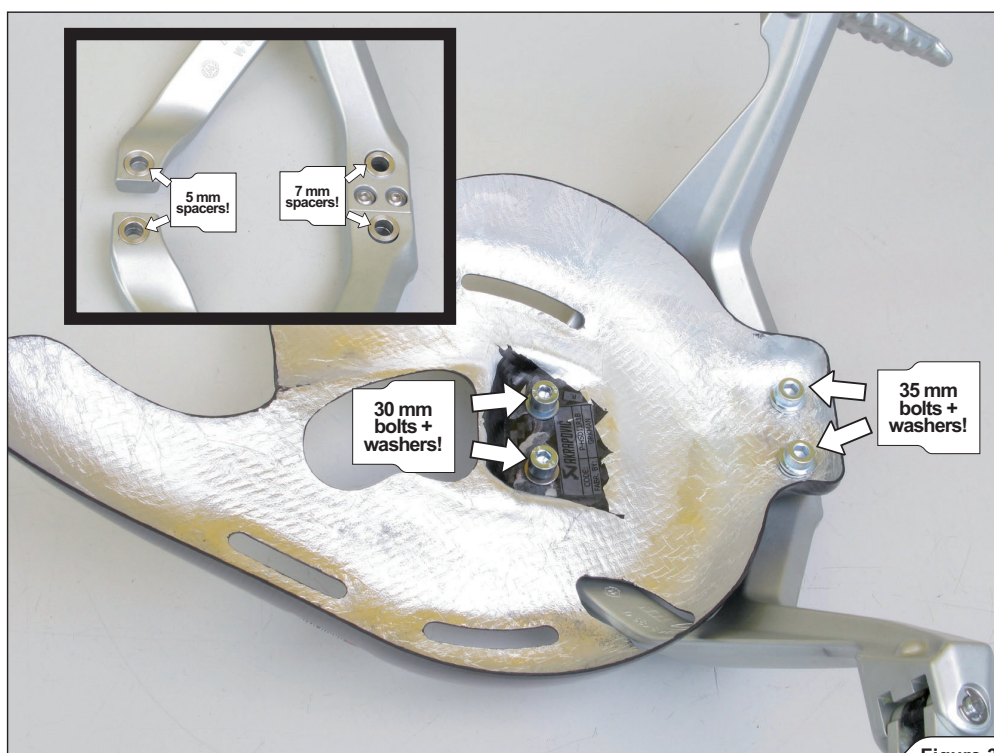

Figure 30
5. For use of passengers foot rests only: install the heat shield and passengers foot rests onto the sub-frame using spacers, bolts and washers from Akrapovič installation kit (Figure 30, 31).